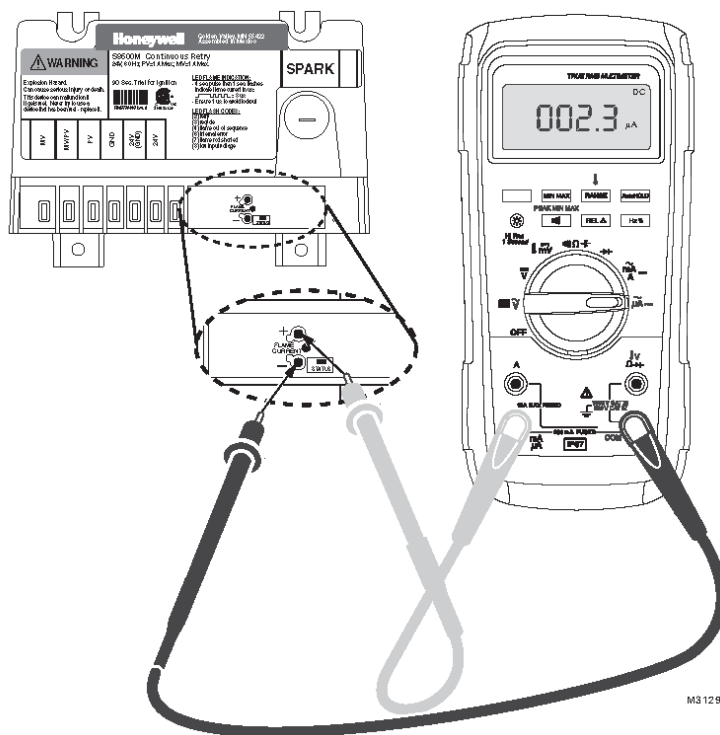

Figure 11-3: Measuring Pilot Flame Current with Micro-ammeter
See Figure 11-3 "Measuring pilot flame current with micro-ammeter"
- Pilot flame current in micro amps can be measured using any standard micro-ammeter by inserting meter probes into module holes labeled FLAME CURRENT as shown in Figure 11-3.